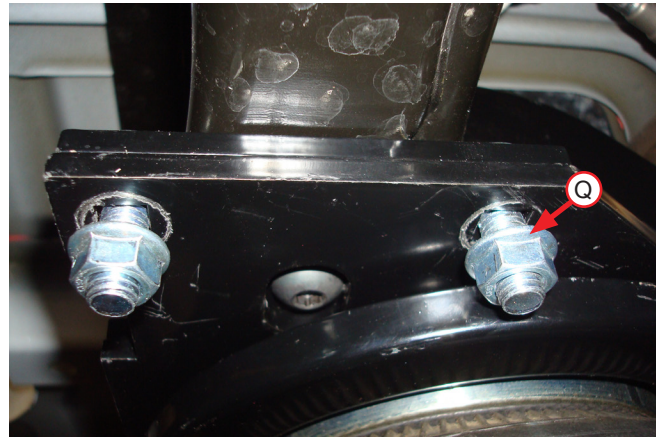

Fig. 23
- Before proceeding, ensure the 90-degree fittings each point inboard toward the center of the vehicle. While raising the axle or lowering the body of the vehicle, align the previously installed upper frame bracket carriage bolts with the air spring bracket holes so the carriage bolts protrude through the air spring bracket. Cap the carriage bolts with the 3/8" serrated flange lock nuts (Q) (Fig. 23). Snug the bolts down first, then torque to 31 lb.-ft. (42Nm). Finish raising the axle or lowering the body and remove safety stands.